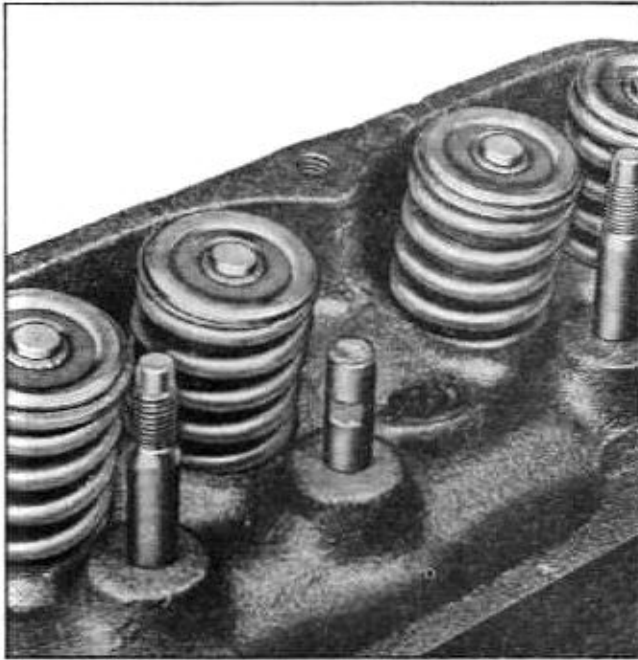

Fig. 6-19 Slots Filed in Rocker Arm Stud
2. With rocker arm removed, file two slots  $\frac{3}{32}$ " to  $\frac{1}{8}$ " deep on opposite sides of rocker arm stud (Fig. 6-19). Top of slots should be  $\frac{1}{4}$ " to  $\frac{3}{8}$ " below thread travel.